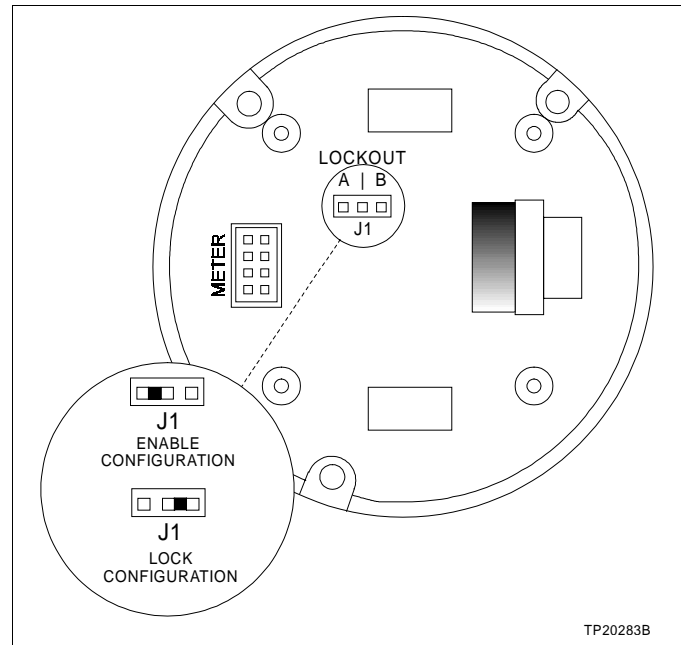

Figure 5-2. Lockout Jumper
5. Use needle nose pliers to change the jumper position. **LOCKOUT A** enables the configuration and **LOCKOUT B** locks configuration (Fig. 5-2).